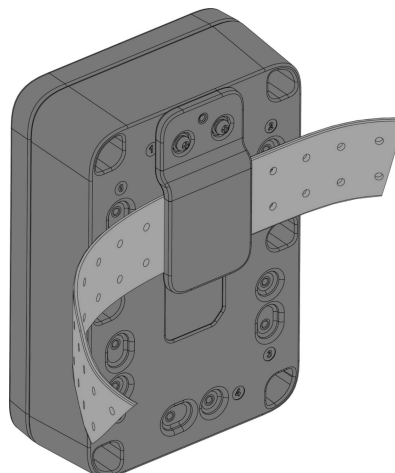

Figure 25: Fixing the enclosure on the belt clip
3. Lastly, clip the unify enclosure on the belt directly, as shown in **Figure 25**.